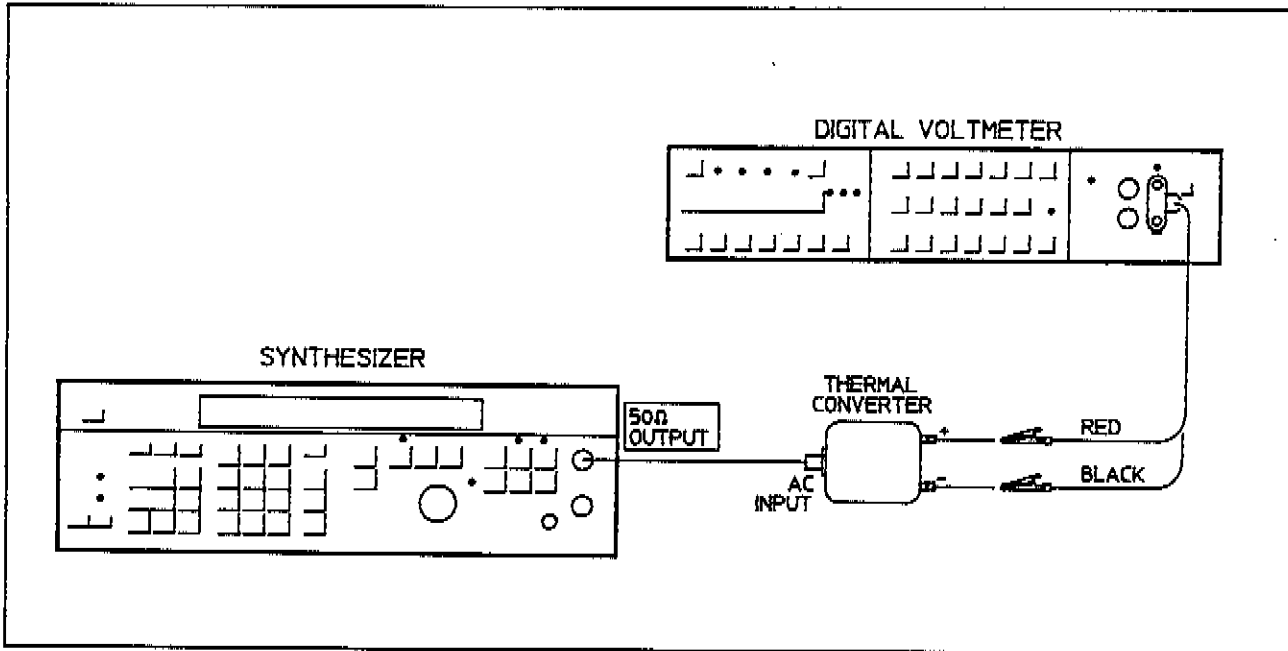

Figure 4-7.
- d. Remove the 50Ω termination and cable from the DVM. Connect the 50Ω thermal converter output to the DVM. Then connect the 3335A through the cable⁽¹⁾ to the thermal converter input. This sequence protects the thermal converter from damage. Set the voltmeter to the dc mode. (See Figure 4.7.)
(1) Be sure to use the same cable as used in step a.